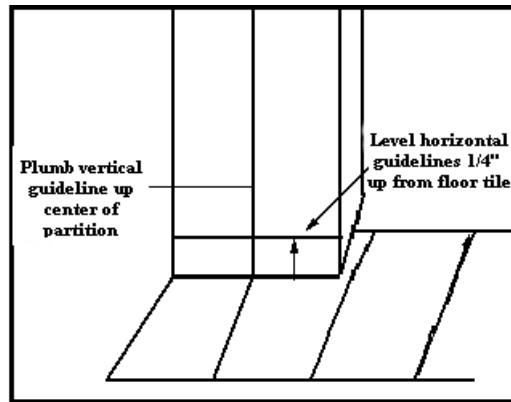

Figure 051-236-1192-1
- b. Draw a horizontal line between these points (Figure 051-236-1192-1). This line represents the top of the first field tile.